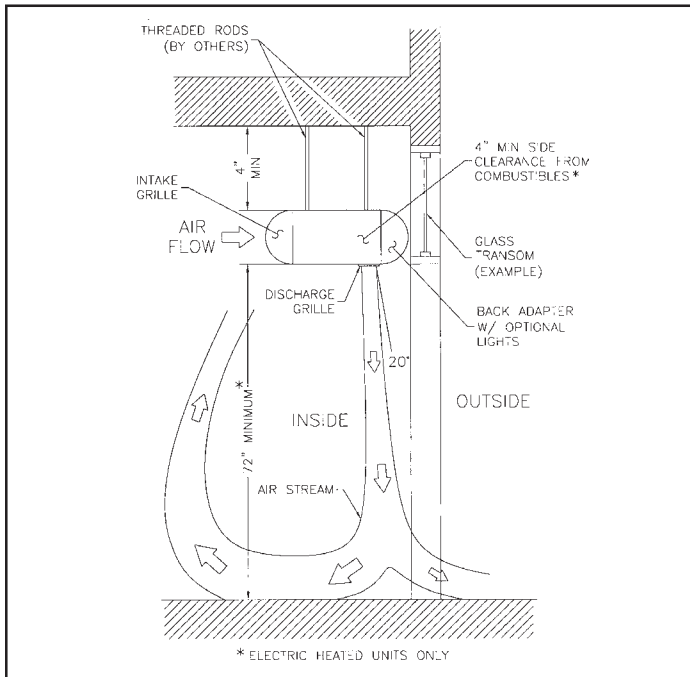

FIGURE 3 - Suspension Mount with Back Adapter
B. WITH BACK ADAPTER: Figures 3 & 4
1. The unit may be mounted with the louvered discharge grille facing toward the door opening, or the interior of the building (electric heated models only). See Figures 3 and 4.
2. **Figure 3** installation (louvered discharge grille facing interior of the building). Follow instructions A & B above.